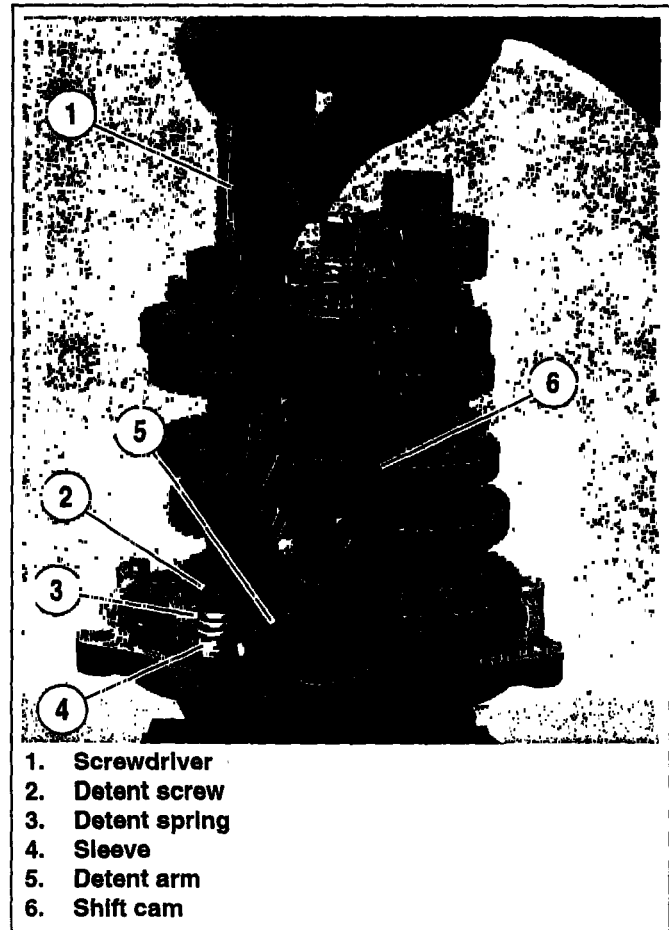

Figure 10. Shift Cam and Detent Assembly
22. See Figure 10. Insert screwdriver (1) and gently pry back detent arm (5) to remove detent spring (3) tension from shift cam (6). Remove shift cam.
23. Remove detent screw (2), detent spring, sleeve (4) and detent arm. Discard detent screw.
3. See Figure 10. Using screwdriver (1), pull detent arm (5) back and install new shift cam (6) (Part No. 33413-06 from 94445 recall parts kit).